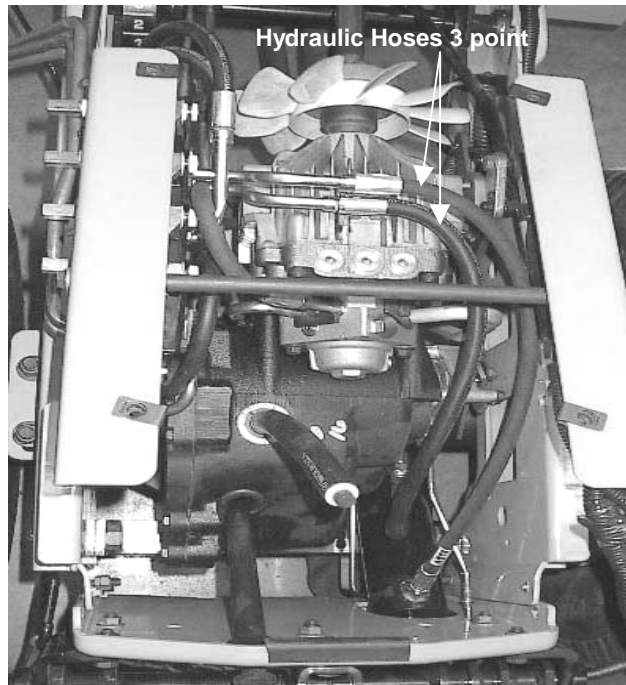

FIGURE 9
- J) Discard both hydraulic hoses for the hydraulic lift cylinder provided with the 3 Point Hitch Attachment and replace with the two hydraulic hoses (E) (G) provided in this service kit. Place an O-Ring (D) and backup O-Ring (C) onto each hose ends. Install the ends of the two hydraulic hoses (E) (G) into the ports of the fourth valve located in front of the center lift valve. See Figure 9.